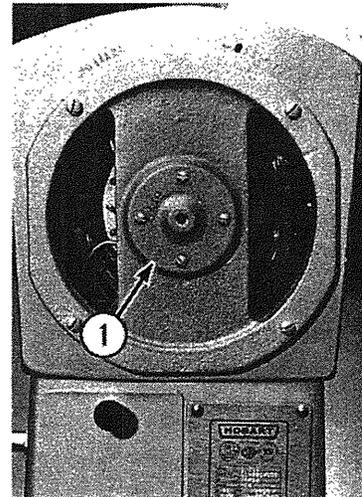

Fig. 8-3
- C. Remove four screws (1, Fig. 8-3) and remove bearing cap.
- B. Remove four screws (1, Fig. 8-3) and remove bearing cap.